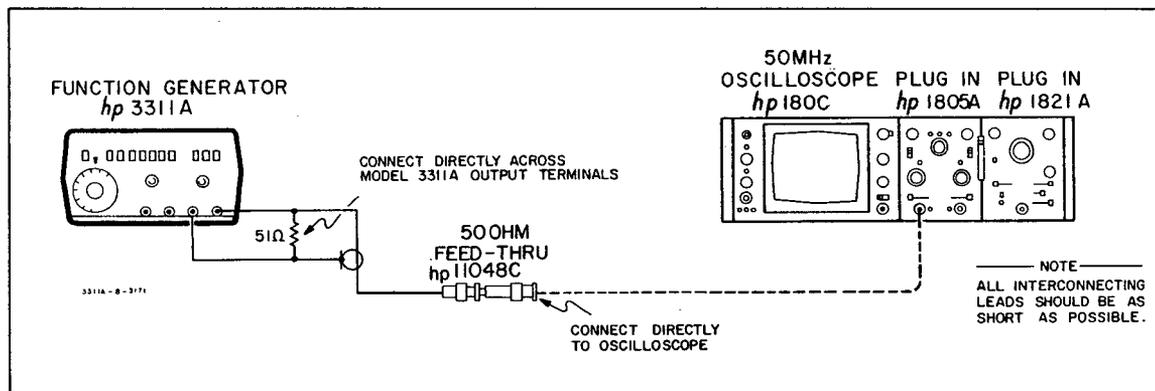

Figure 5-5. Transition Time Tests.
- a. Connect the 3311A as shown in Figure 5-5.